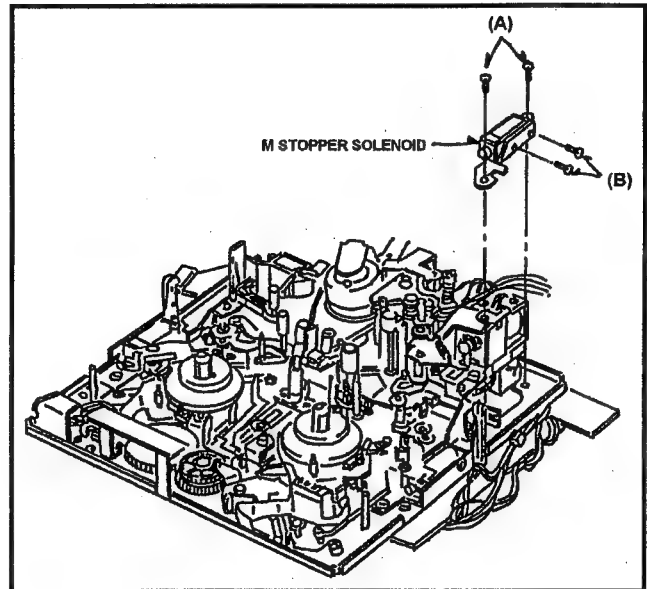

Fig. 6-20-1 Removal of M-Stopper Solenoid
4. Unscrew the 4 screws (A) and (B) and remove the M-Stopper Solenoid as shown in Fig. 6-20-1.